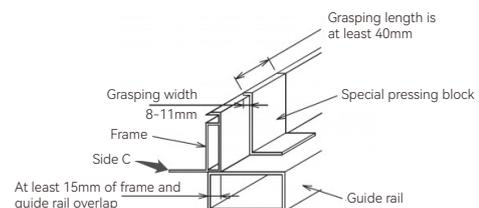

Figure 3 Requirements for Installation of Clamp
⑧ The PV module shall be fixed by using professional solar clamp (as shown in Figure 3), and the overlapping part between the surface C of PV module and the guide rack shall be $\geq 15\text{mm}$. If improper clamp or incorrect installation method is used, the warranty of HY SOLAR will be invalid.
⑨ For the modules with the length of more than 2.2m or the width of more than 1.3m, it is recommended to use the clamp with special anti-skidding design. If it is attached to the arc-shaped pressing surface of side A of the frame, or with the structure design of clamping, the clamp shall meet the requirements of length $a \geq 60\text{mm}$, thickness $\geq 5\text{mm}$, material 6005-T6, $Rp0.2 > 225\text{MPa}$, and $Rm265\text{MPa}$. Technical requirements and details of pressing clamps can be consulted by after-sales service team of HY SOLAR.